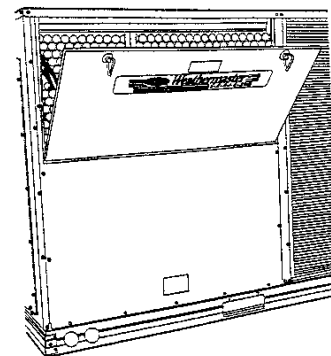

FIGURE 7
2. Slide filters (located in the hinged access panel) out of unit. Replace if dirty. **See Figure 7.**